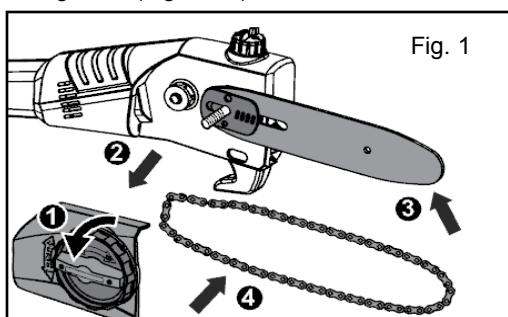

Fig. 1
- Loosen the lock knob (Fig.1 ①) by turning counter-clockwise.
- Remove the chain cover (Fig.1 ②).
- Position the bar with the longitudinal hole on the threaded bolt (Fig.1 ③).
- Place the chain around the bar and the drive sprocket (Fig. 1 ④).